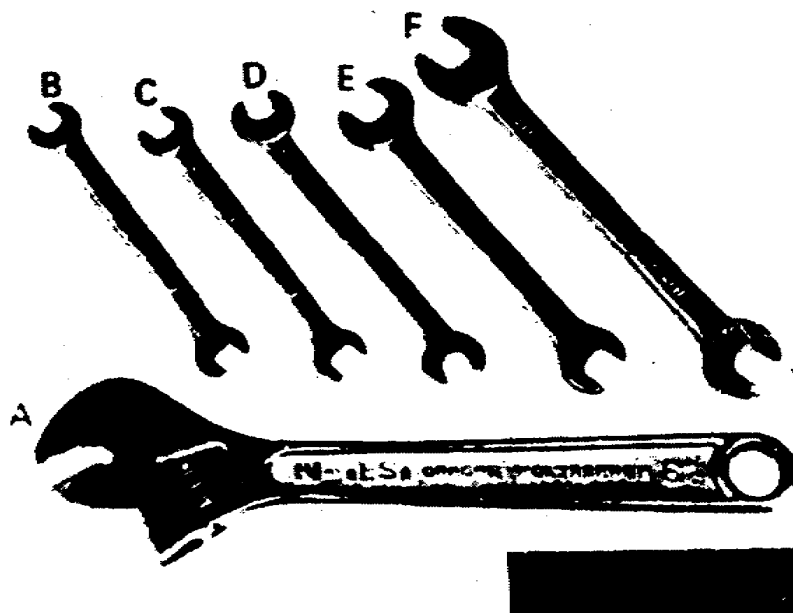

Figure 6. Wrenches: adjustable and open-end.
- (1) Open-end wrenches (fig 6). Item A is a 6-inch adjustable open-end wrench. Its jaws will accommodate any square- or hexagonal-head bolt or any square nut or hexagonal nut up to three-quarters of an inch. Larger sizes are available but this 6-inch one is the only adjustable wrench furnished in a TK-105/G. Items B through F are